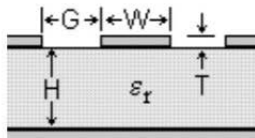

Figure 7.4. RF Trace Design Example
- For reference, Figure 7.4 RF Trace Design Example on page 34 shows a set of parameters for a 50 Ω trace. Trace impedance should always be matched to the particular stack-up used on the host board.